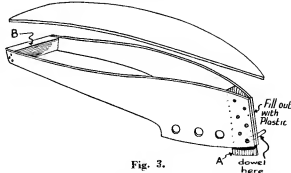

Fig. 3.
When bent, nail the two sides to the "nose" block (A) and transom (B) (Fig. 3) which have been previously cut from oak, deal, or similar timber.